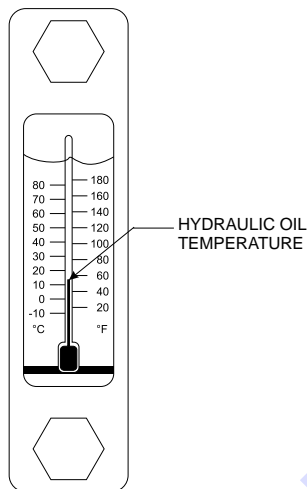

Figure 30. Hydraulic Oil Temperature Gauge
5. Let the pump cycle until the hydraulic oil temperature (Figure 30) is approximately 50° to 60° F.